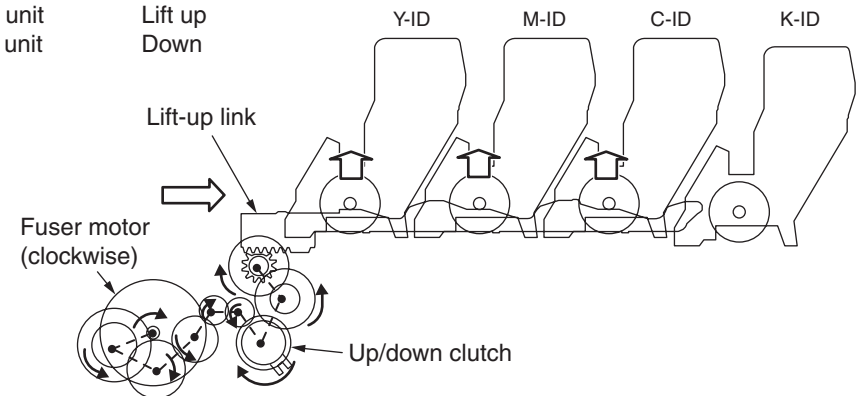

Figure 2-4
3. Figure 2-4 shows the motions of each of the ID units when the printer is operated for monochrome printing. As the lift-up motor runs (clockwise) with the up/down clutch ON, the lift-up link slides to the right causing the ID units, except the K-ID unit, to go up as shown in Figure 2-4. In that state, monochrome printing is available.